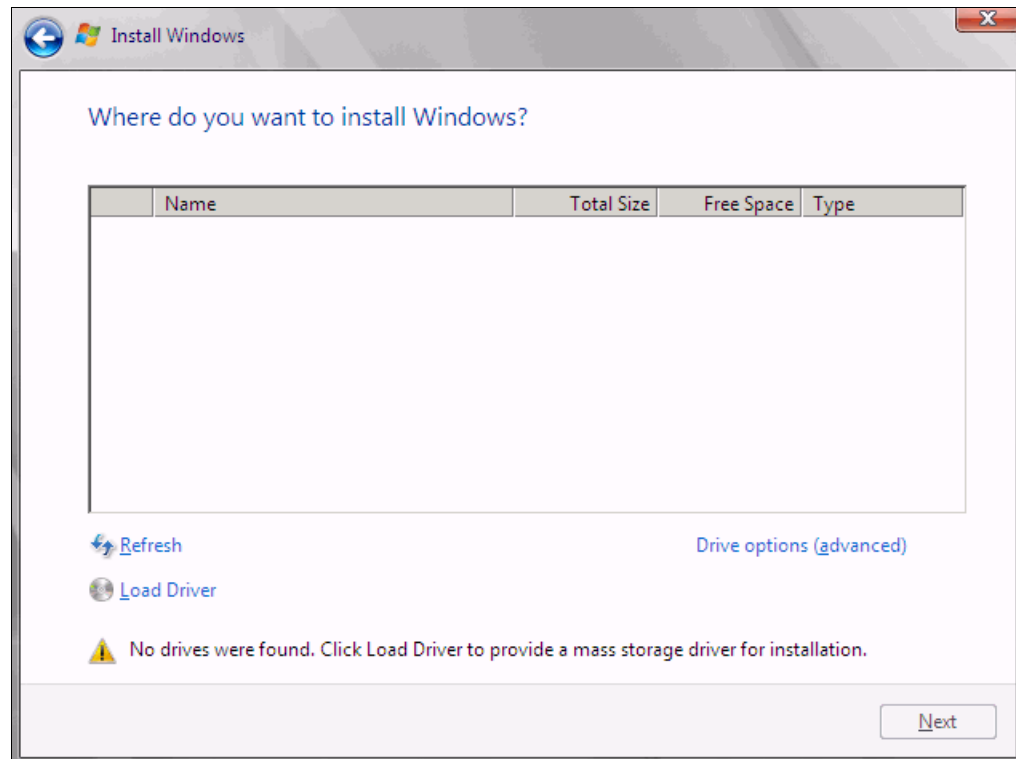

Figure 9-145 No drives found message
14. If no disks are displayed (Figure 9-145), insert the media that contains the drivers. The media can be in the form of a USB key, CD, or DVD, on a remotely mounted ISO. Then click **Load Driver** to load a driver for your storage device (Emulex card).